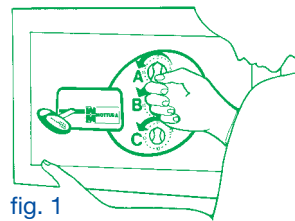
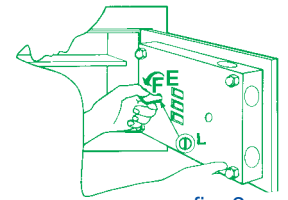

fig. 1
fig. 2
Bring external knobs A, B and C into the zero position by rotating them counter-clockwise as shown in fig. 1.
Open the door using the small key D, turn the change combination pin L, from position E to position F as shown in fig. 2.
- Bring knobs A, B and C into the zero position by rotating them counter-clockwise, as shown in fig. 1.
- Bring the three knobs A, B and C into the zero position by rotating them counter-clockwise as shown in fig. 1
- Rotate the combination change pin counter-clockwise from position E to position F, as shown in fig. 2 and bring knobs A, B and C back to the zero position, as shown in fig. 1.